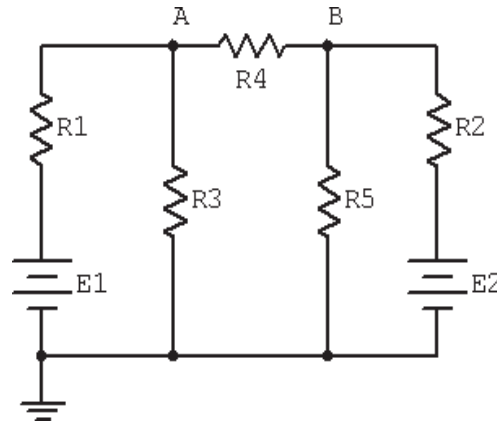

Figure 10.2
6. Consider the dual supply circuit of Figure 10.2 using  $E1 = 10$  volts,  $E2 = 15$  volts,  $R1 = 4.7$  k,  $R2 = 6.8$  k,  $R3 = 10$  k,  $R4 = 22$  k and  $R5 = 33$  k. To find the current through  $R4$  flowing from node A to B, superposition may be used. Each source is again treated independently with the remaining sources replaced with their internal resistances. Calculate the current through  $R4$  first considering  $E1$  and then considering  $E2$ . Sum these results and record the three values in Table 10.2.
7. Assemble the circuit of Figure 10.2 using the values specified. Replace source  $E2$  with a short and measure the current through  $R4$ . Be sure to note the direction of flow and record the result in Table 10.2.
11. Build the circuit of Figure 10.2 in a simulator. Using the virtual DMM as an ammeter, determine the current through resistor R4 and compare it to the theoretical and measured values recorded in Table 10.2.